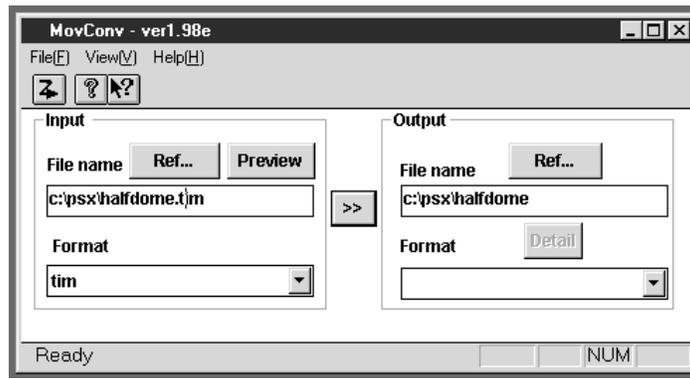
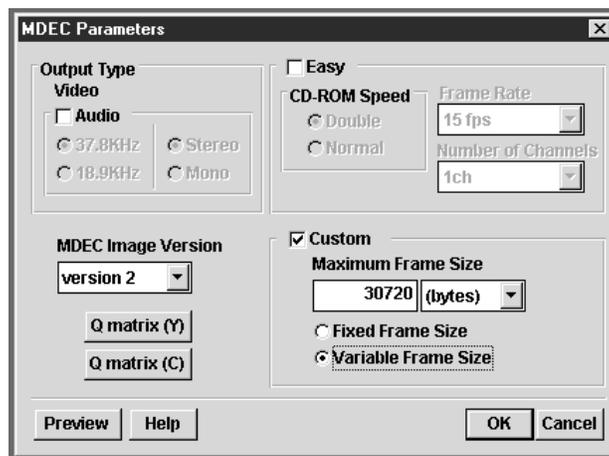

Figure 1 — MovConv Window Example
Figure 3 — MDEC Parameters Dialog
- 1) Run MOVCONV. Select your source image by clicking on the **Ref...** button in the Input section and then using the file selector. For our example, this will be C:\PSX\HALFDOME.TIM. Note that the output filename is already filled in. You should see a window resembling that shown in *Figure 1*.
- 3) Now we must specify the desired size of the compressed image. Click on the *Details* button in the *Output* section of the main window as seen in Figure 1. This should result in the *MDEC Parameters* dialog being shown, as seen in Figure 3.